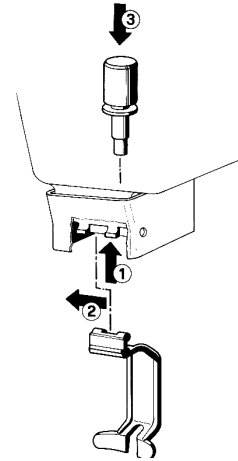

figure 12
- 2 - Install the faucet handle (1-2) and the piston with its gasket (3) (see figure 12).